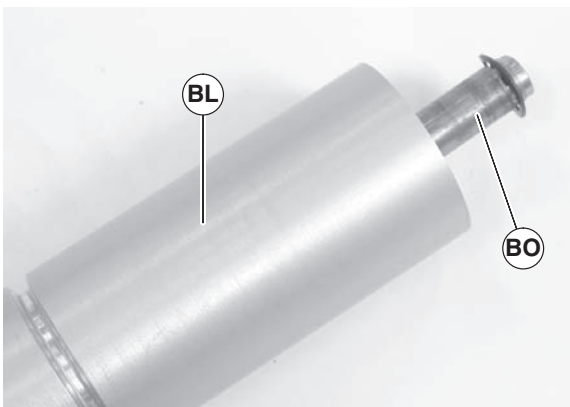

Figure 58
- Slide the shaft assembly (Figure 58, item BO) out of the pulley (BL).